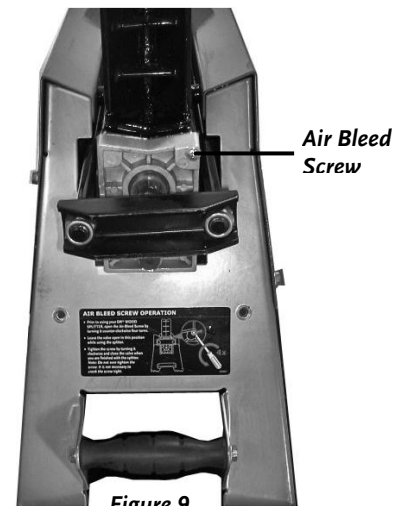

Figure 9
- IT IS IMPORTANT THAT THE AIR BLEED SCREW IS OPEN WHEN YOU USE THE MACHINE. YOU WILL NEED A #3 PHILLIPS SCREWDRIVER TO MAKE THIS ADJUSTMENT (*FIGURE 9*).
3. Prior to using the wood splitter, open the Air Bleed Screw by turning it counter-clockwise four (4) times. **Leave the Air Bleed Screw open in this position while using the machine.** We recommend closing the Air Bleed Screw after each use, but you can leave the Air Bleed Screw open when you are finished, unless you are going to transport the machine, at which time you should close the Air Bleed Screw being careful not to over tighten and strip the screw.
6. Cycle the Ram back and forth 3 or 4 times to purge any air from the hydraulic system; see **Figure 9** on page 13.